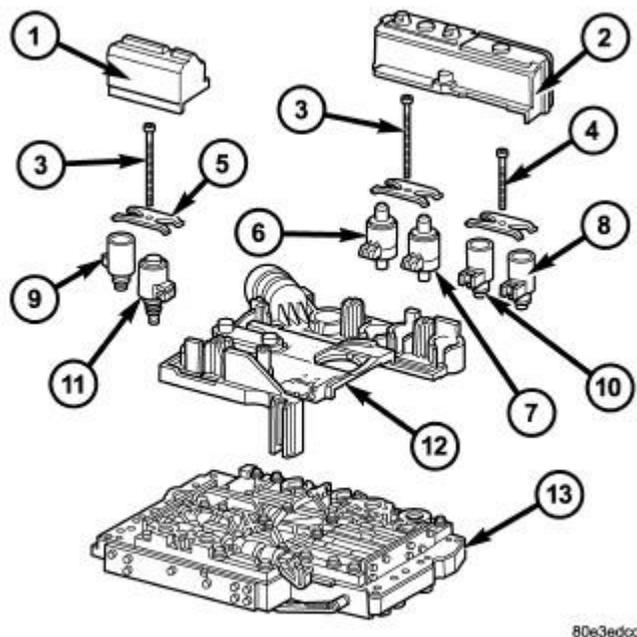

Fig. 265: Electrohydraulic Control Unit Components
20. Install the electrohydraulic control module (12) onto the shift plate (13). Refer to **Fig. 265**.
22. Install the solenoid valves (6 - 11) into shift plate (13).
23. Install the leaf springs (5).
24. Install the Torx® socket bolts (3, 4). Refer to **Fig. 265**. Tighten the bolts to 8 N.m (71 in.lbs.).